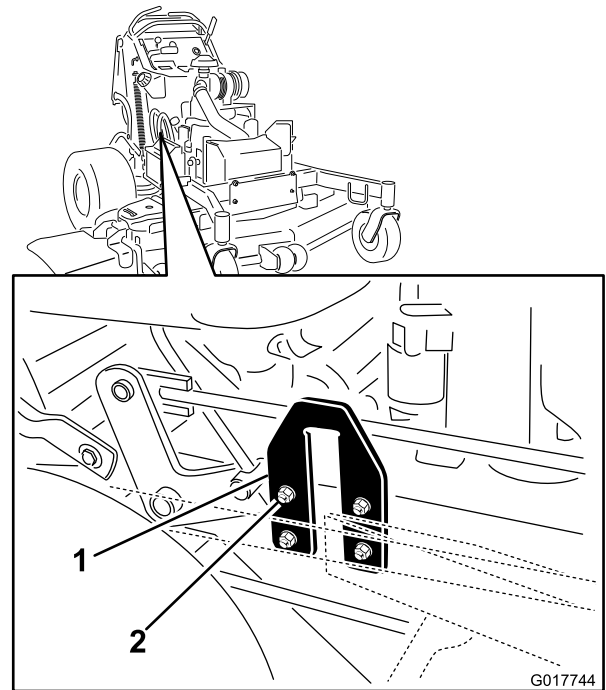

Figure 92
2. Locate the U-plates on the side of the engine deck (Figure 92).
3. Loosen the U-plate on 1 side, and adjust it up or down to make the difference between measurements **B** and **C** no more than a 6 mm (1/4 inch) as shown in Figure 92.